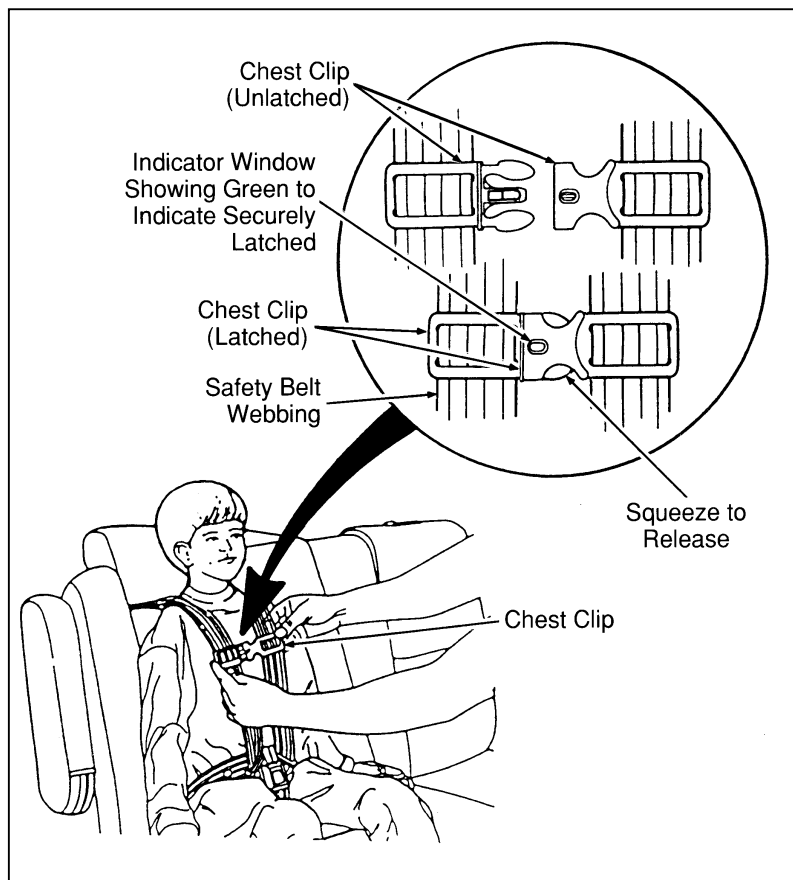

Figure 6: Securing the chest clip
7. Fasten both halves of the chest clip below the child's shoulders and adjust it to comfortably hold the shoulder belts in place on the child's chest. The color green must appear in the indicator window when fastened. (The purpose of this clip is to position the shoulder belts correctly on the child's shoulders.) Refer to Figure 6.
1. Open the chest clip. Refer back to Figure 6.